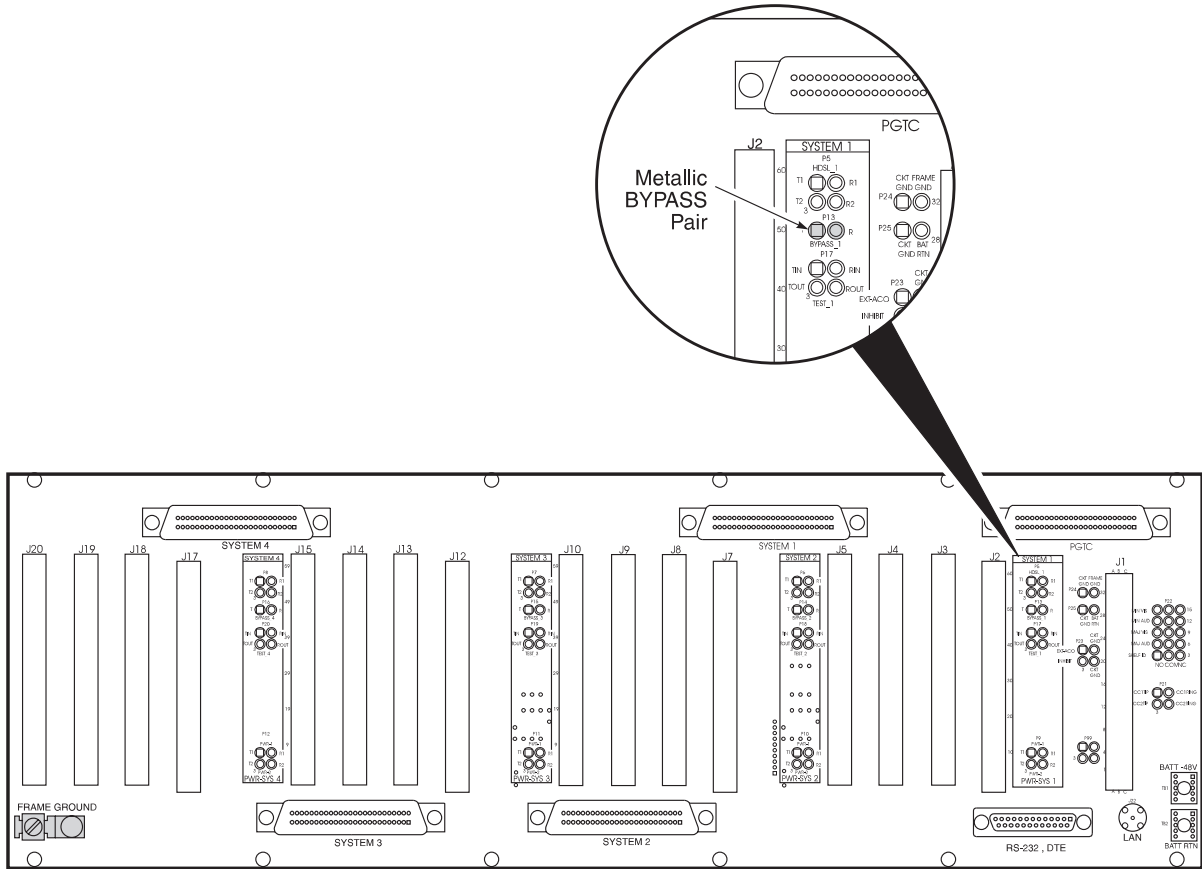

Figure 6. Connecting the Metallic Bypass Pair.
8.1.4 If subscriber drop testing is required, connect the metallic bypass pair from the MDF to wire wrap posts **BYPASS_T_n** and **BYPASS_R_n** on the COT shelf, where **n** is 1 for System 1, 2 for System 2, 3 for System 3, and 4 for System 4 (Figure 6):